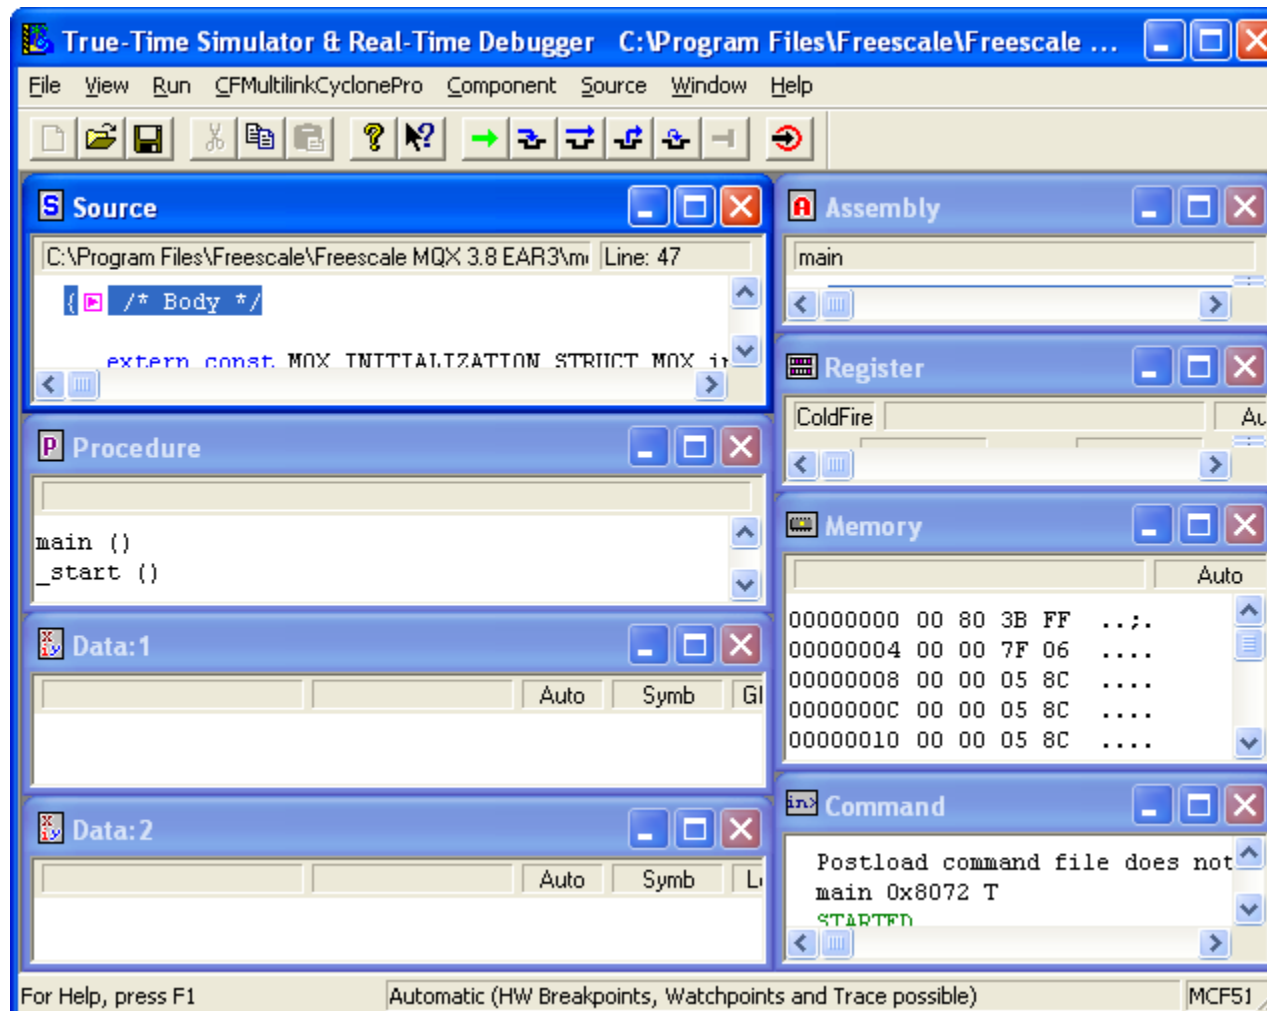

Figure A-8. Simulation and Realtime Debugger
- After the built image is loaded in the flash, the debugger window opens, as shown in Figure A-8. Click on the green arrow, as shown in Figure A-8, to run the programmed image.